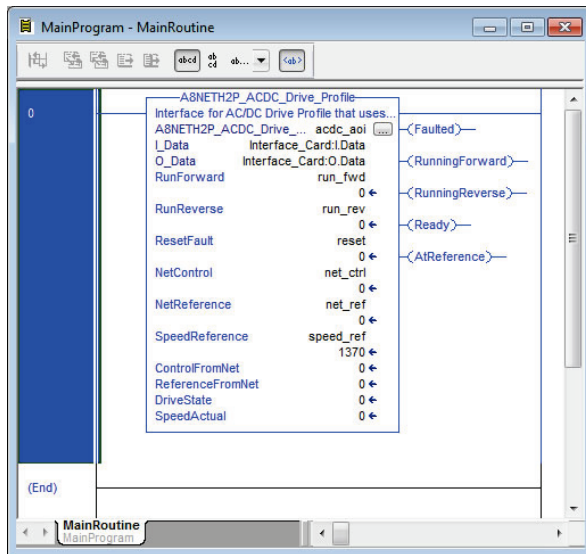

Figure 55: Configure AC/DC Drive Profile AOI
- 10) Edit the add-on instruction according to Figure 55.